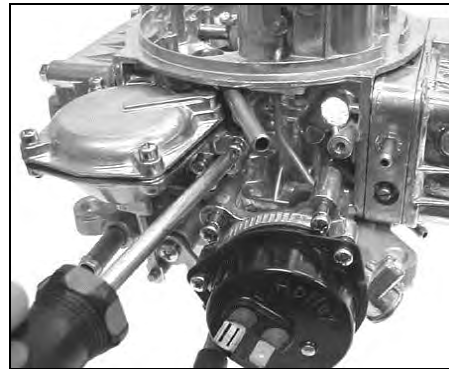

Figure 12
2. Remove three screws attaching secondary vacuum diaphragm to the main body (Figure 12).